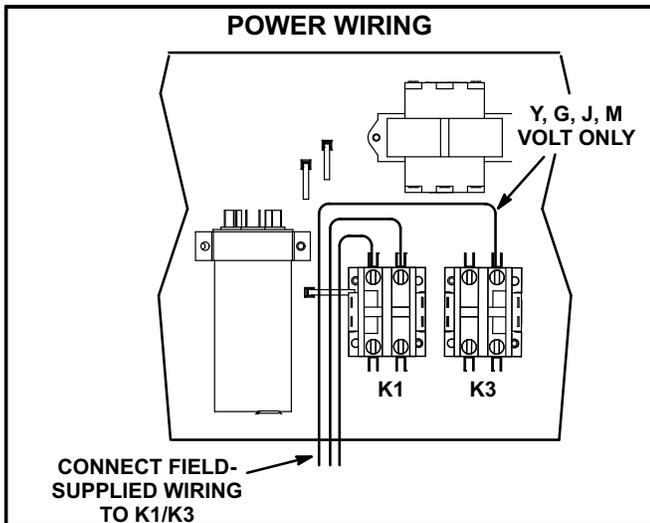

FIGURE 7
- Route power through the side or bottom power entry area. For bottom power entry, a bottom power entry kit must be used. Connect power wiring to K1/K3 contactors in control box. See figure 7. On units equipped with electric heat, route power wiring to TB2; see parts arrangement for location. See unit wiring diagram.